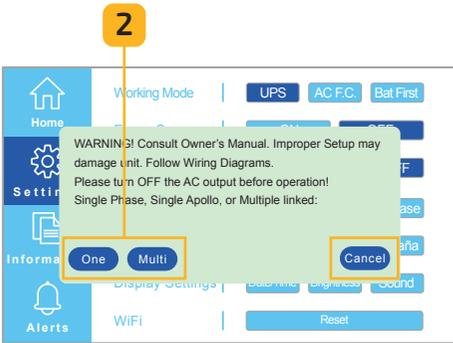

Fig. 6.23 Select single or multi option
2. Select the **One** or **Multi** button (Fig. 6.23):